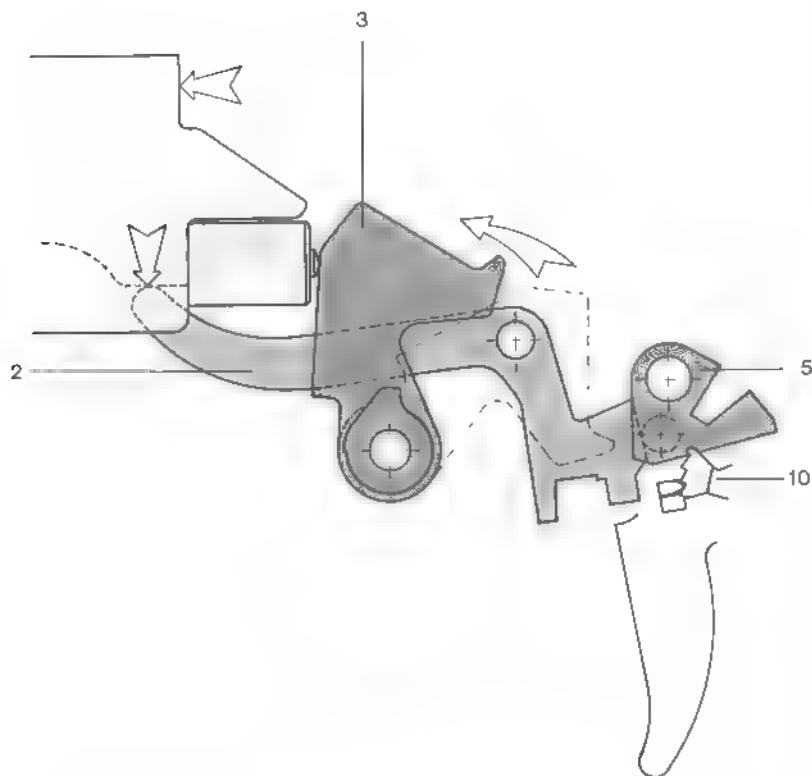

Figure 68
The advancing bolt drives the release bar (2) downward. The release bar (2) presses the sear (5) to the rear and releases the hammer (3) (refer to figure 68).
The advancing bolt presses on the release bar (2) which pushes the sear (5) to the rear thus releasing the hammer (3) (refer to figure 68).